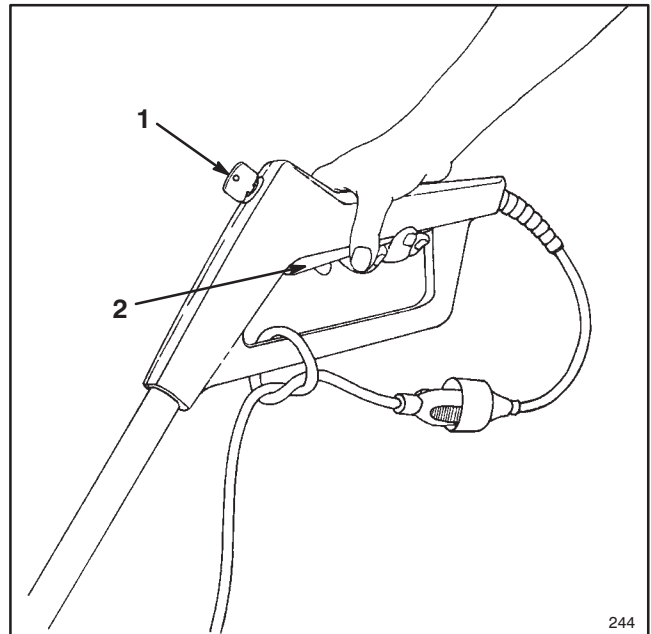

Figure 7
1. Tie the extension cord to the lower handle of the control grip (Fig. 7) before connecting it to the *Power Shovel* cord. This helps prevent the cords from separating during operation.
2. Plug the extension cord into a wall outlet and insert the key into the hole located on the front side of the control grip (Fig. 7).
To start the *Power Shovel*, install the key and squeeze the switch bar. To stop, release the switch bar (Fig. 7).